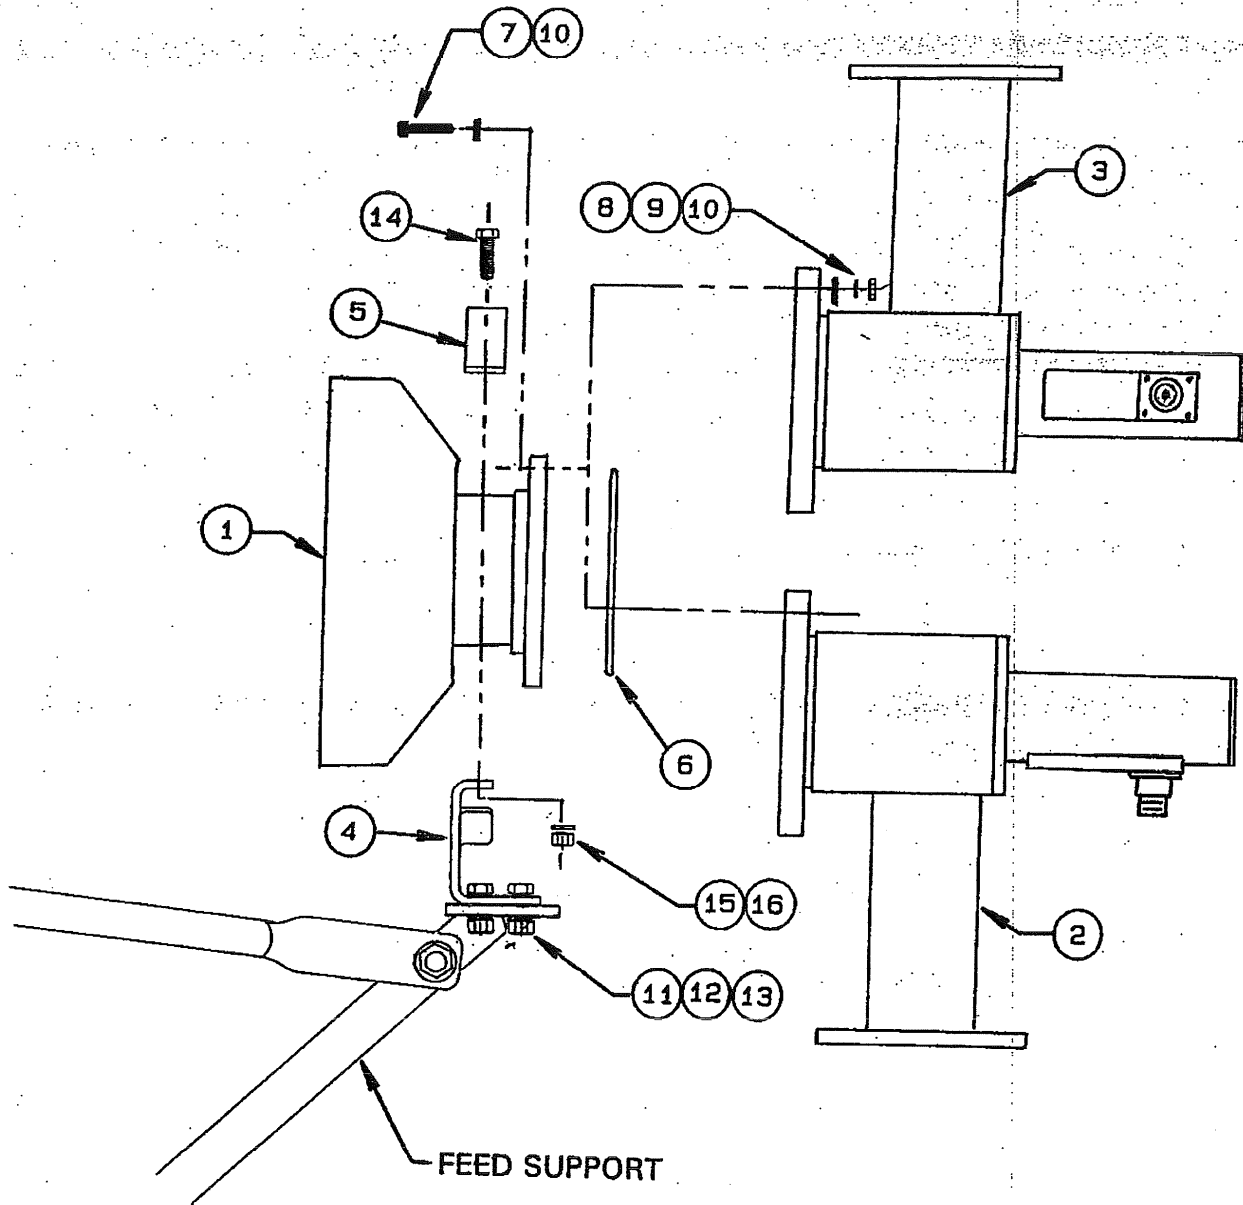

FIGURE 2.1-A
- Step 1: Apply silicone grease to [2] o-rings (item# 7) and place [1] in the o-ring groove in the circular polarizer (item# 3). Attach the feed horn (item# 1) to the circular polarizer (end with o-ring) with [8] #10-24 x 1.25" screws, [16] flatwashers, [8] lockwashers, and [8] #10-24 hex nuts (item# 8,9,10,11). Tighten securely. **NOTE: The screws should be inserted from the feed horn side to prevent any interference.** See figure 2.1-B.
- Step 4: Attach the remaining bottom feed mounting bracket to the circular polarizer bracket with [4] 3/8-16 x 1.00" bolts, [4] lockwashers, and [4] 3/8-16 hex nuts (item# 12,14,15). Do not tighten. **NOTE: Refer to figure 2.1-B to be sure that the brackets are oriented correctly.**